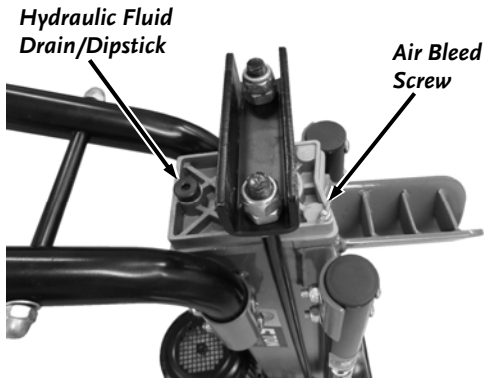

Figure 12
2. Tip the machine up vertical on the Wheels (you may need to have someone support the splitter to prevent tipping over). Clean the area around the Hydraulic Fluid Fill/Drain Port (**Figure 12**) and then, using a 6mm Allen Wrench, unscrew and remove the Dipstick located in the Hydraulic Fluid Fill/Drain Port.